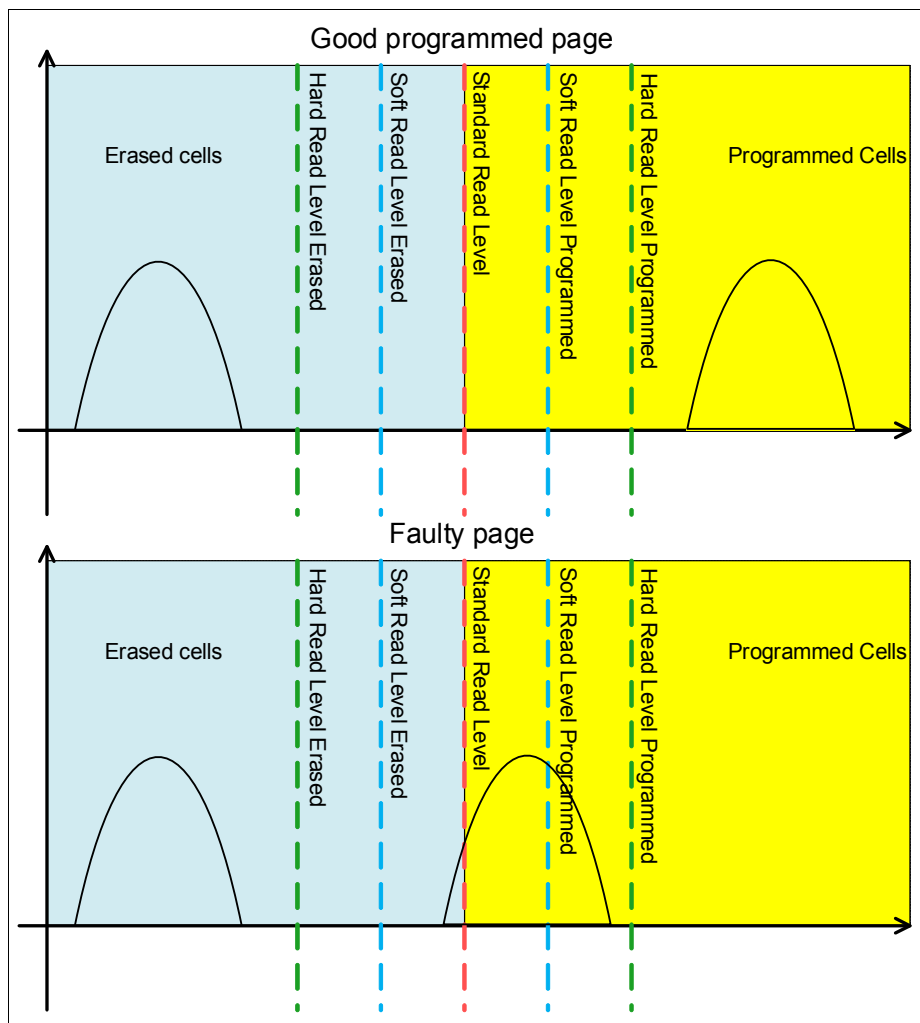

Figure 6-4 Read levels and faulty page
In order to detect pages whose mapblock is marginal towards the standard read level, the NVM finite state machine that performs the mapping initialization is triggered three times with three different read levels: standard read margin, soft read level erased and soft read level programmed (refer to Figure 6-4). As soon as the first incorrect mapping (faulty or multiple mapping) is detected by any of these three initialization sequences the Service Algorithm is called.
The Service Algorithm is called by the NVM Data sector initialization in case incorrect mapping issues have been found. The Service Algorithm checks the data sector page by page reading the mapblocks with soft read levels (refer to Figure 6-4).
1. The SA checks the 2 pages linked to the double mapping with standard, soft and hard read levels to detect which one has better quality (more margin towards the standard read level, refer to Figure 6-4). The page with smaller margin is then erased.